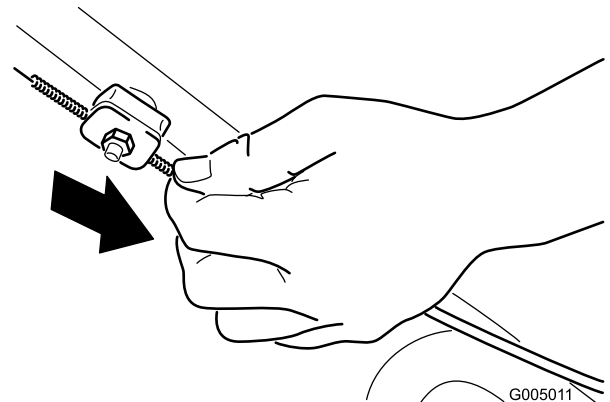

Figure 35
2. Pull down the cable jacket (toward the mower) until there is no slack in the cable (Figure 35).